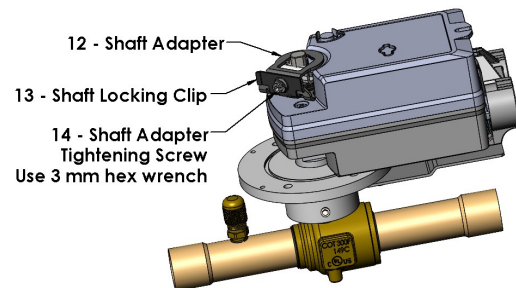

Fig. 2
1. Determine whether the fail-safe (loss of power) position required for the valve is open or closed. The side of the Actuator (11) facing upward will determine the rotation direction of the actuator and therefore whether the valve is opened or closed upon loss of power. This is changed by removing the Shaft Locking Clip (13), reversing the Shaft Adapter (12), and replacing the Clip. On the label near the actuator arm is a diagram showing direction of rotation for powered operation, the number "1", and spring return rotation direction, the number "0" (power loss). For valve closed upon power loss, position the actuator arm fully counter clockwise, making sure the valve is fully closed. For valve open upon power loss, position the actuator arm fully clockwise, making sure the valve is fully open. The valve and actuator arm **MUST** be matched for proper function.
2. After the Actuator and Valve are placed in proper positions, place the Actuator (11) over the Shaft (3), with the bottom of Actuator flush on the Hub, with the Hub Plate Post inserted into the slot on the Actuator (see Figs. 2 & 3)
3. Pull Stem (3) upwards, away from Ball Valve until no additional space is between the Hub Assembly's Stem and Sealing Mechanism. While holding Actuator flush against Hub, tighten Shaft Adapter Tightening Screw (14) (See Fig. 2). Torque: 44-62 lb.-in. (5-7 N-m). See Commissioning Instructions.